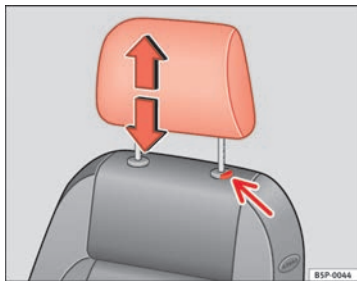

Fig. 66 Adjusting and removing the head restraints
- Press the button ⇒ fig. 66 (arrow).